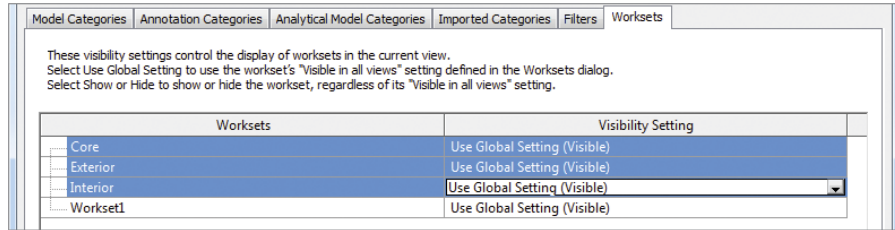

FIGURE 10.11 Resetting the visibility settings
9. By this step the only items visible are two room separation lines. Select them and assign them to the Interior workset. Now no geometry should be visible in the Level 1 view. Open the Visibility/Graphic Overrides dialog for the view, and reset the visibility settings back to Use Global Setting (Visible), as shown in Figure 10.11. Click OK to return to the view, and all elements should once again be visible.